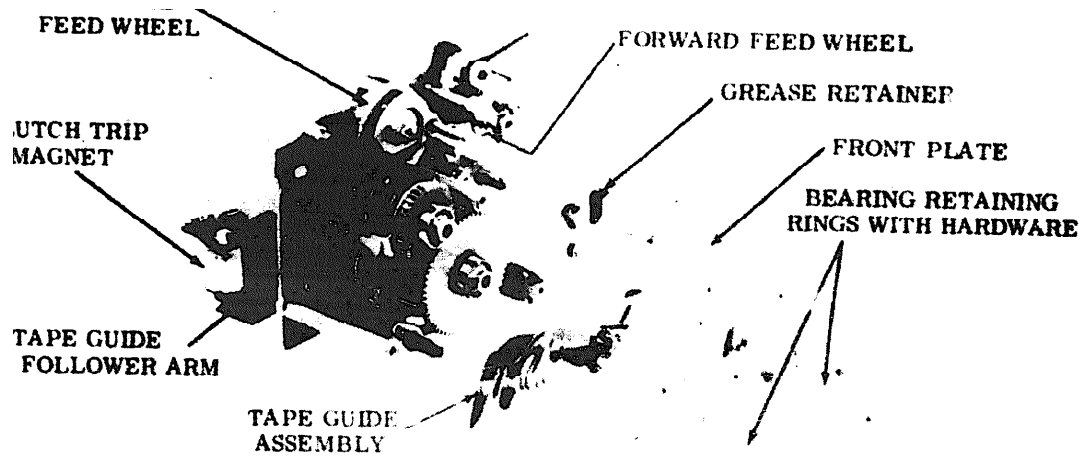

Figure 10 - Punch Backup Mechanism, Front Plate Removed
- (2) Remove the magnet assembly by sliding the armature bail (TP320370) out of the lever (TP320374).
3.10 To separate the front and rear plates (Figure 10):
3.13 To remove the drive shaft assembly (TP320380) (Figure 10):
3.14 To remove the intermediate shaft assembly (TP320378) (Figure 10):